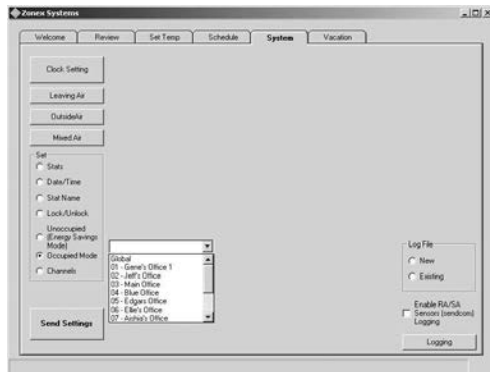

Fig. 14
1. Click on the **Occupied Mode** radio button (see Fig.14).